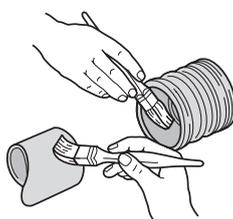

Fig.2b Preparing pipe
Step 2 – Coat mating surfaces with **9100 Liquid Weld** (solvent cement), using a clean brush (Fig.2b) (Replace lid on container to prevent evaporation of cement)